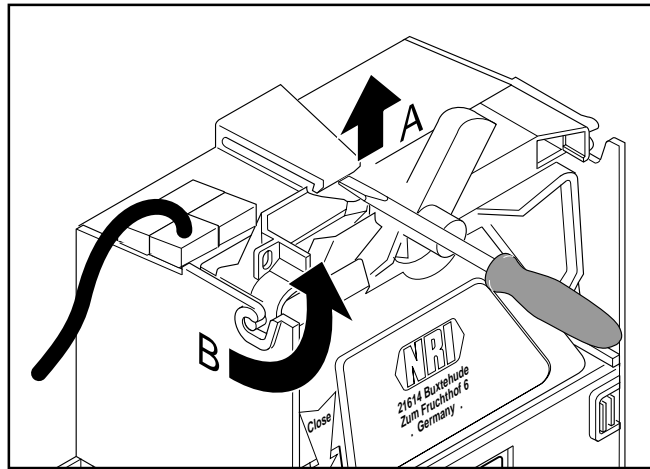
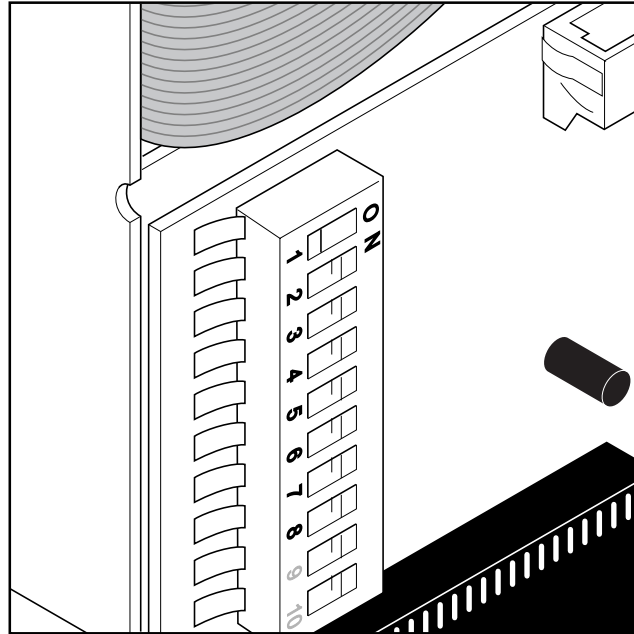

Fig. 3: Removing the coin validator
Fig. 4: Inhibiting channel 1 to 8 with DIL switches 1 to 8 on the rear of the coin validator (CPU card)
The 16 coin channels can be inhibited by means of the setting module (Pro 15, see chap. 8). In addition, it is possible to inhibit the channels 1–8 by means of DIL switches, which are situated on the rear of the coin validator. In order to get free access to the switching block, the coin validator must be removed (see fig. 3). In order to inhibit a channel, push the corresponding switch to the right to the ON position (fig. 4).
1. Remove the coin validator from the device at the top (fig. 3).